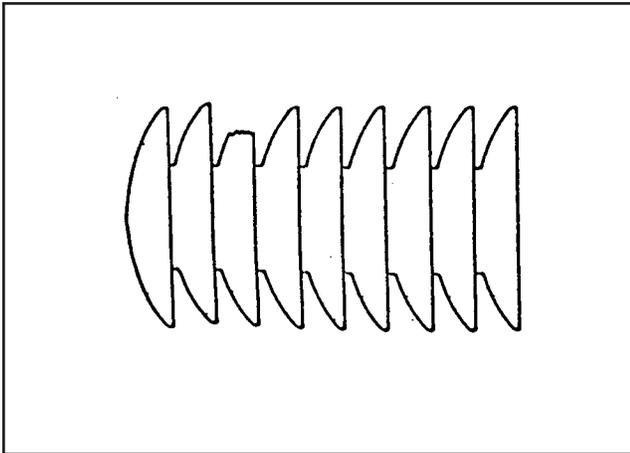
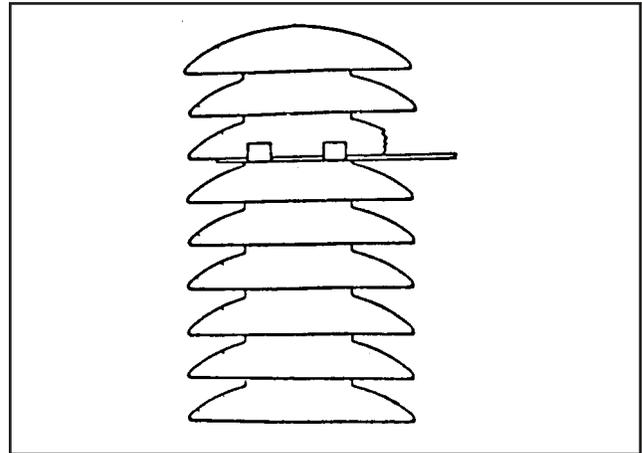

FIGURE 1
FIGURE 2
2. Whenever possible, position the broken, exposed surface as shown in Figure 1. When this is not possible, repairs made when the insulator is in a vertical position may have to be supported with a plastic template, cut to fit under the shape as shown in Figure 2.